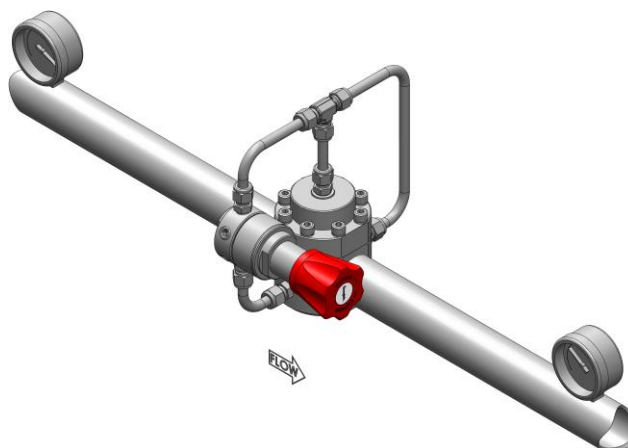
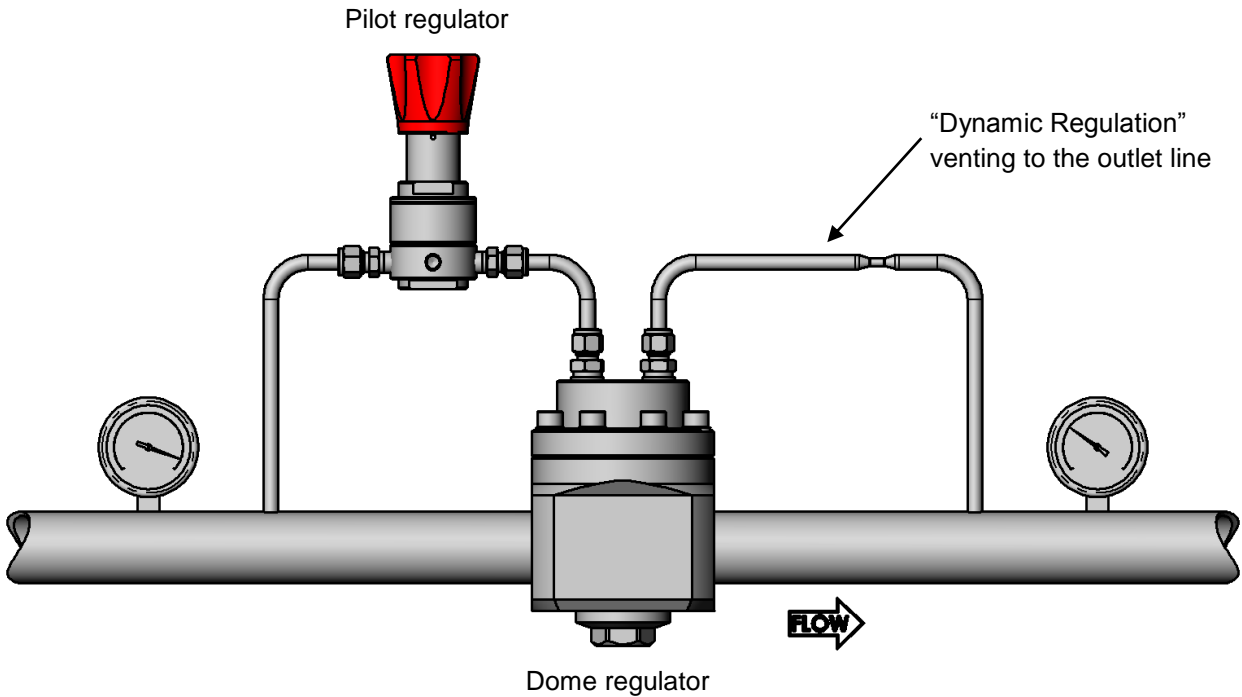
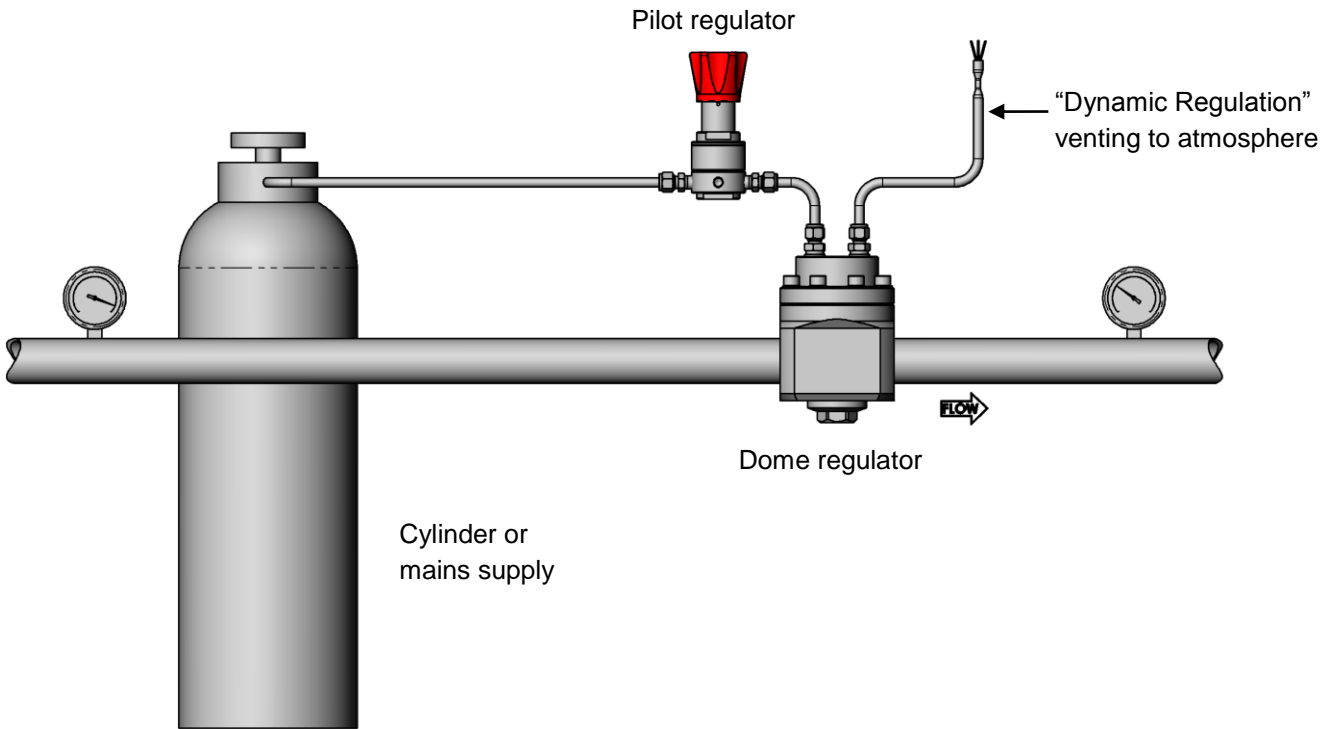

Fig 1
Fig 2
Fig 3
- The preferred mounting position of the regulator is horizontal with the dome facing upwards per Fig 1. Alternative mounting positions may increase the risk of component wear.
- **Integral pilot control.** In this setup the dome-loaded regulator comes supplied with a pilot regulator as part of the assembly (Fig 1). The pilot regulator, fed from the system pressure, is manually operated to control the dome pressure (Fig 2). This setup is not suitable for liquid applications.
- **External dome control.** In this setup the dome pressure is supplied from an independent source, such as a cylinder or main supply (Fig 3). This setup is suitable for liquid applications.
The best performance will be achieved by allowing a small flow to continuously pass through the pilot regulator. This flow can either be vented through an orifice (Fig 3) or, in gas systems, fed back through an orifice into the downstream piping (Fig 2). This is usually referred to as “**dynamic regulation**”.